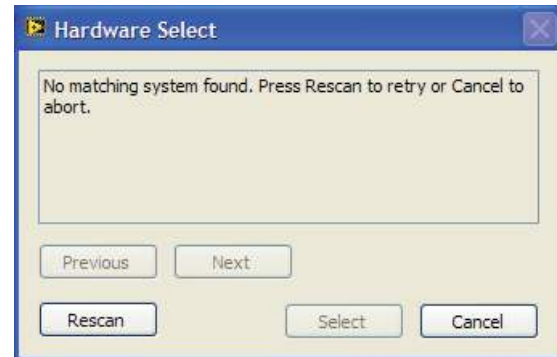

Figure 5. Pop-Up Window Error
2. If the SDP board is not connected to the USB port when the software is launched, a connectivity error displays (see Figure 5). Simply connect the evaluation board to the USB port of the PC, wait a few seconds, click **Rescan**, and follow the instructions.